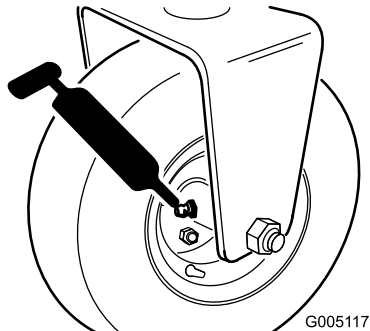

Figure 39
- Rear wheel roller clutches and external ball bearing (1) (Figure 39)